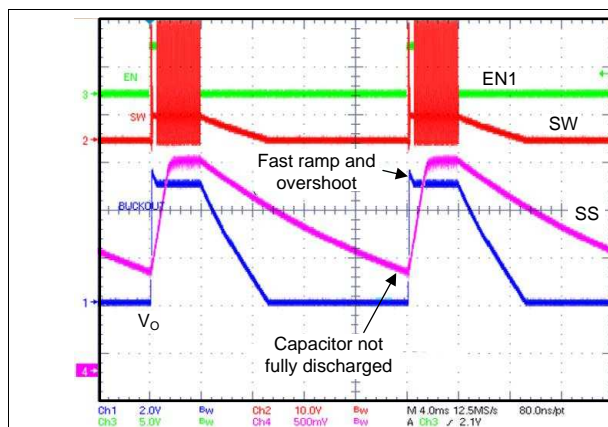

Figure 15. Partially Discharged SS Capacitor Causing Overshoot on V_O
- VIN-overshoot (up to 1 V was observed, see Figure 15)